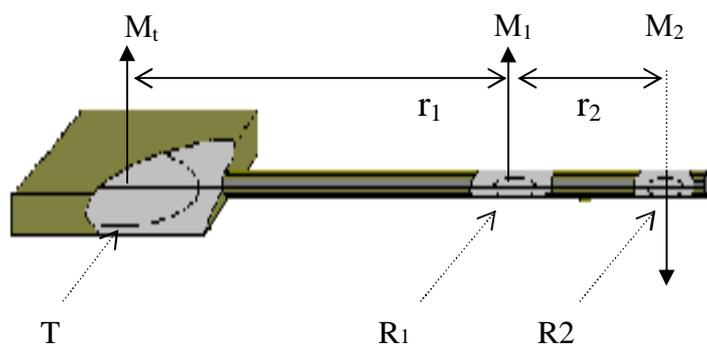

Figure1.
Basic components of NEMFIS is shown on Figure 1. NEMFIS implements the frequency induction sounding as follow. Alternating magnetic field with controllable phase is generating consequently on several frequencies by transmitting loop (T). Measurement of real and imaginary component of media-induced field is to be effected on each frequency. Transmitter field compensates by contrary connection of receivers.